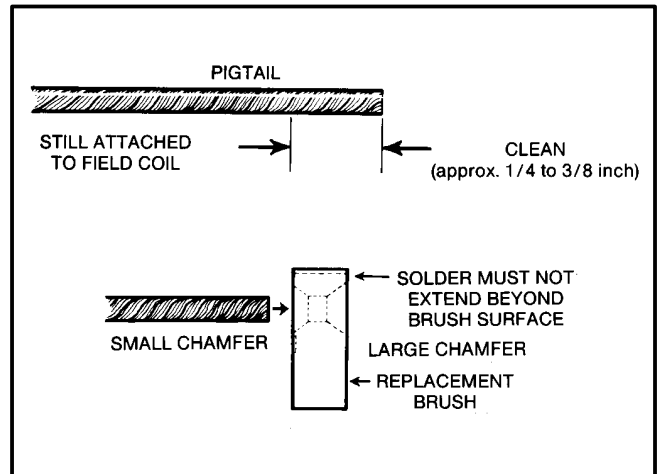

FIGURE 9-9. BRUSH REPLACEMENT
2. Clean 1/4 to 3/8 inch (6.5 to 9.5 mm) of the brush end of the pigtail with sandpaper or emery cloth. See Figure 9-9.